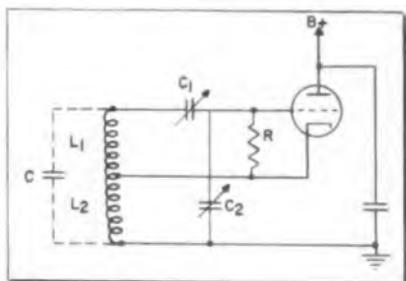

Fig. 1: Basic Hartley oscillator circuit
THE basic capacity relay circuit goes back many years. It consists of a simple Hartley oscillator circuit (Fig. 1) in which the tank circuit L_1/L_2 is tuned, if required, by a capacity (C) and is connected to the grid of the oscillator tube through a capacity potentiometer C_1, C_2 . If the impedance ratio of L_1/L_2 is greater than the impedance ratio of C_1, C_2 , the grid of the tube will be energized with a component of the output voltage of the proper phase to sustain oscillation, i.e. the feed back will be positive. If the impedance ratio C_1, C_2 becomes greater, the feedback is negative and oscillations will not be sustained. If L_1 and L_2 are fixed, and C_1 preset at a suitable value, any variation of C_2 will control the oscillation of the tube, thus C_2 becomes the measuring or sensing element or electrode. In the early circuits it was usual for a portion of the r-f developed to be rectified and used to control a relay tube.